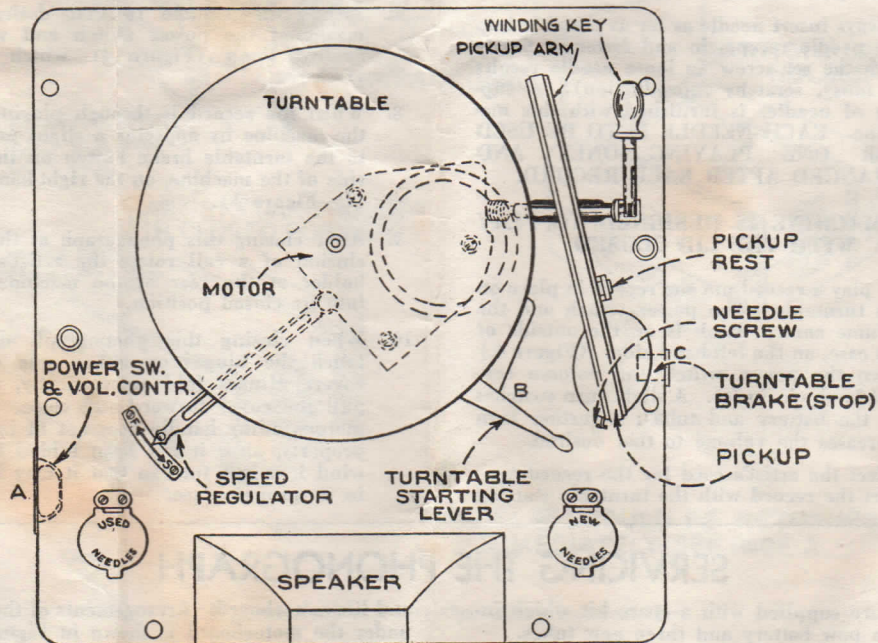

Figure 1—Motorboard
8. When the record is through playing stop the machine by applying a slight pressure to the turntable brake button on the outside of the machine, on the right-hand side (C—Figure 1).